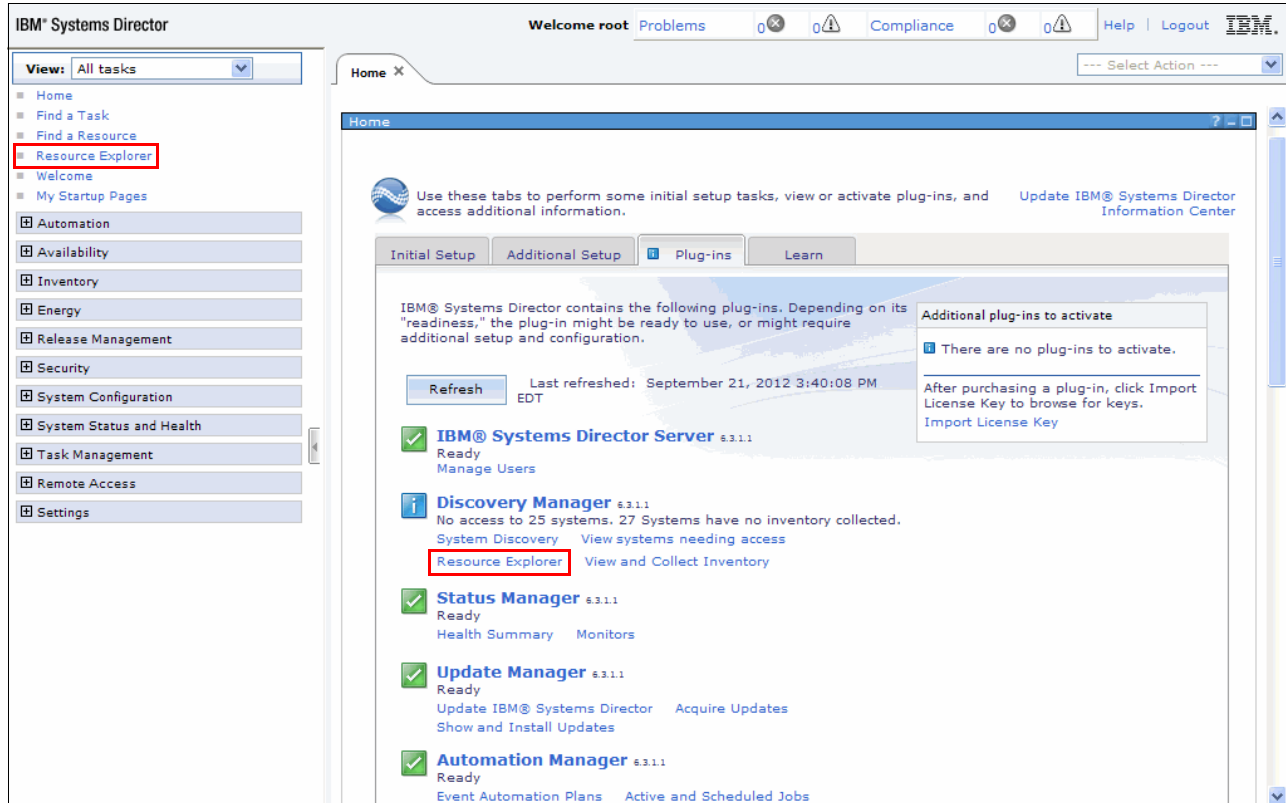

Figure 5-31 Systems Director: Plug-ins tab
- ▶ Access the IBM Systems Director for the Power Systems console. Click the **Resource Explorer** link in the left side menu or in the **Plug-ins** tab below the **Discovery Manager** options, as shown in Figure 5-31.